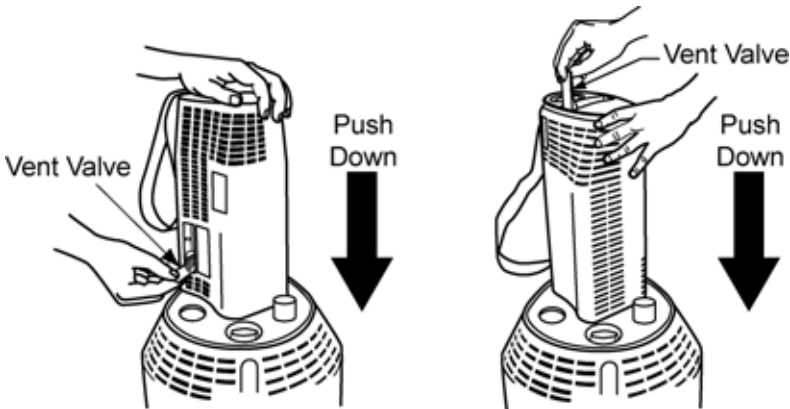
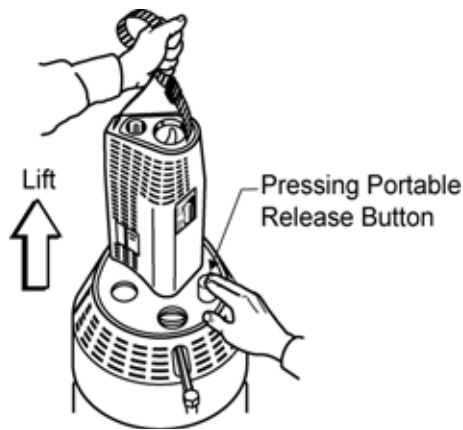

Figure 12: Filling the Portable Unit
Figure 13: Disengaging the Portable Unit
- While holding the Portable unit in the fill position (Figure 12), move the vent valve lever to the open position (90° from the normal “off” position). This will result in a loud hissing noise.
Note: *If the vent valve fails to close and the hissing continues, remove the Portable unit by depressing the Portable release button (Figure 12 and Figure 13) on the Stationary unit. The Portable will stop venting in a few minutes. Allow the unit to warm until you can close the vent valve. The Portable may require two to three hours at no flow to restore adequate pressure for accurate oxygen flow.*
- Disengage the Portable from the Stationary unit by holding the carrying strap above the unit and depressing the release button (Figure 13). Always hold the Portable unit with at least one hand when attempting to disengage it.